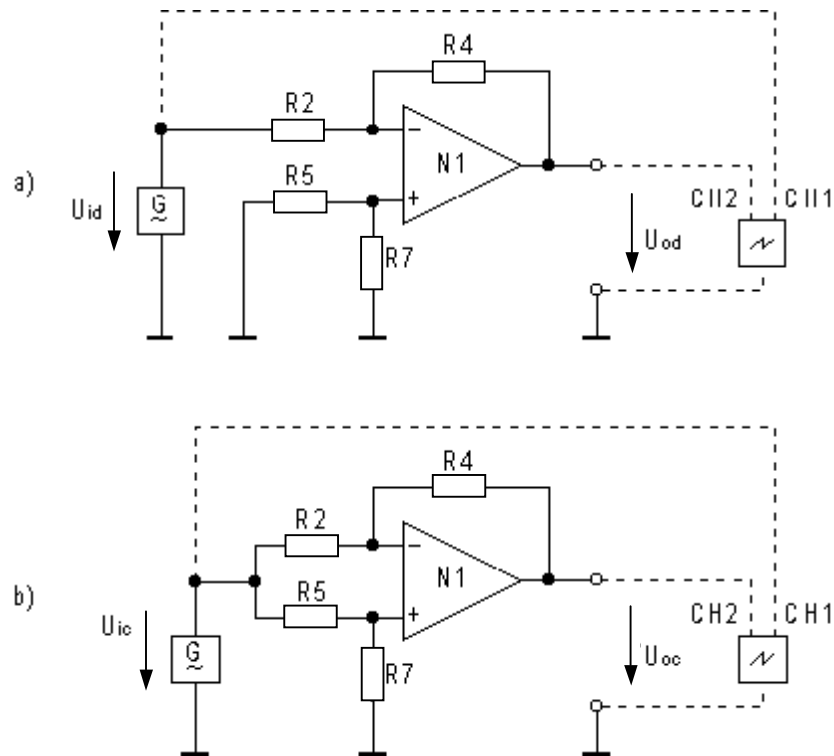

Fig. 6.9: a) CMRR (differential mode)
1. Use Module 16 unit (2) and set the main switch to ON;
3. connect the signal generator, the oscilloscope and the circuit jacks as it is shown in Fig. 6.9-a (differential mode)
9. connect the signal generator, the oscilloscope and the circuit jacks as it is shown in Fig. 6.9 b (common mode)
1. connect the signal generator, the oscilloscope and the circuit jacks as it is shown in Fig. 6.9-a (note: the grounding of the resistance $R5$ is not necessary but it is advisable);